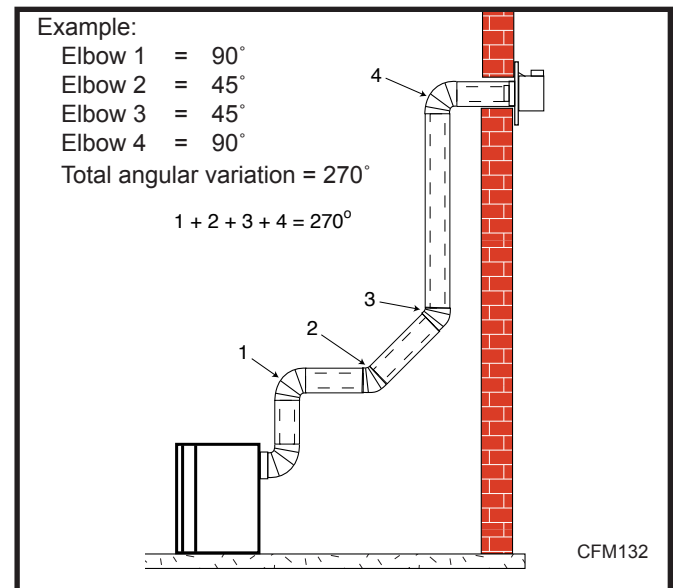

Fig. 24 Maximum number of elbows.
- The maximum number of elbow degrees in a system is 270°. (Fig. 24)